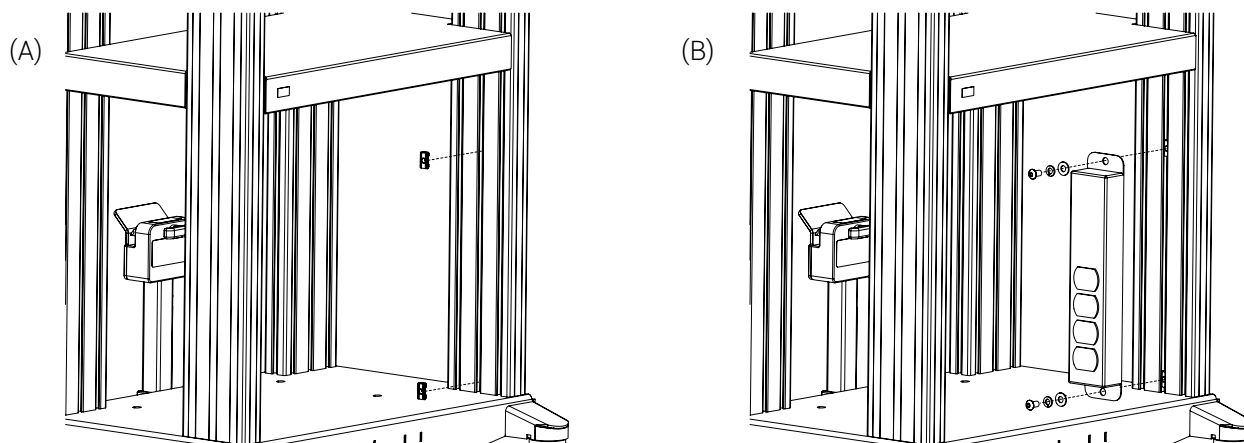

Figure 21: Installation of the power bar
1. Ensure to have applied all four (4) brakes on the transport cart.
2. Insert two (2) sliding T nuts on the vertical rail of your choice (Figure 21 A). The rail chosen for the installation of the power bar depends on the specific positioning needs of the equipment.
3. Align the screw holes of the power bar and the sliding T nuts, then only partially tighten the two (2) button head hex socket screws 5/16-18 X 5/8 in., two (2) lock washers and two (2) washers, using an Allen key 3/16 in. (Figure 21 B).
2. Insert two (2) sliding T nuts on the vertical rail of your choice (Figure 21 A). The rail chosen for the installation of the power bar depends on the specific positioning needs of the equipment. Locate the insert located in the middle of the mounting plate under the UPS protector/shelf, then tighten the two (2) button head hex socket screws and two (2) locknuts, using an Allen key 3/16 in. and key 1/2 in. (Figure 30).